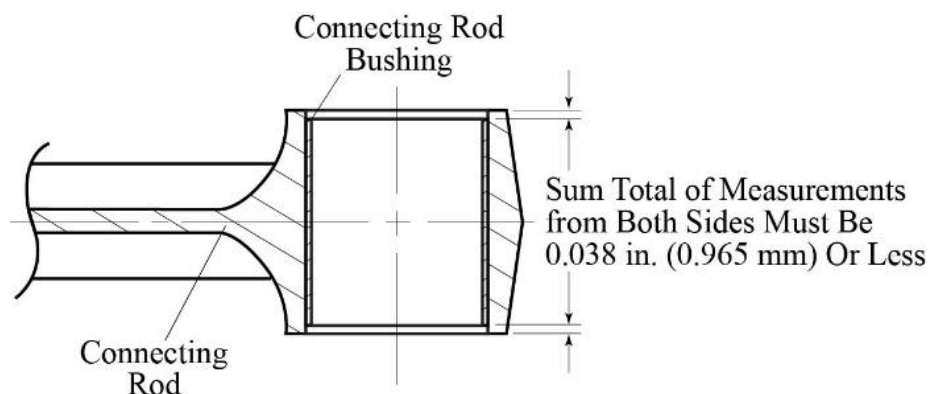

Figure 6
- (5) Measure the distance from the surface of the connecting rod to the edge of the connecting rod bushing installed in the connecting rod (Figure 6) on both sides of the connecting rod.